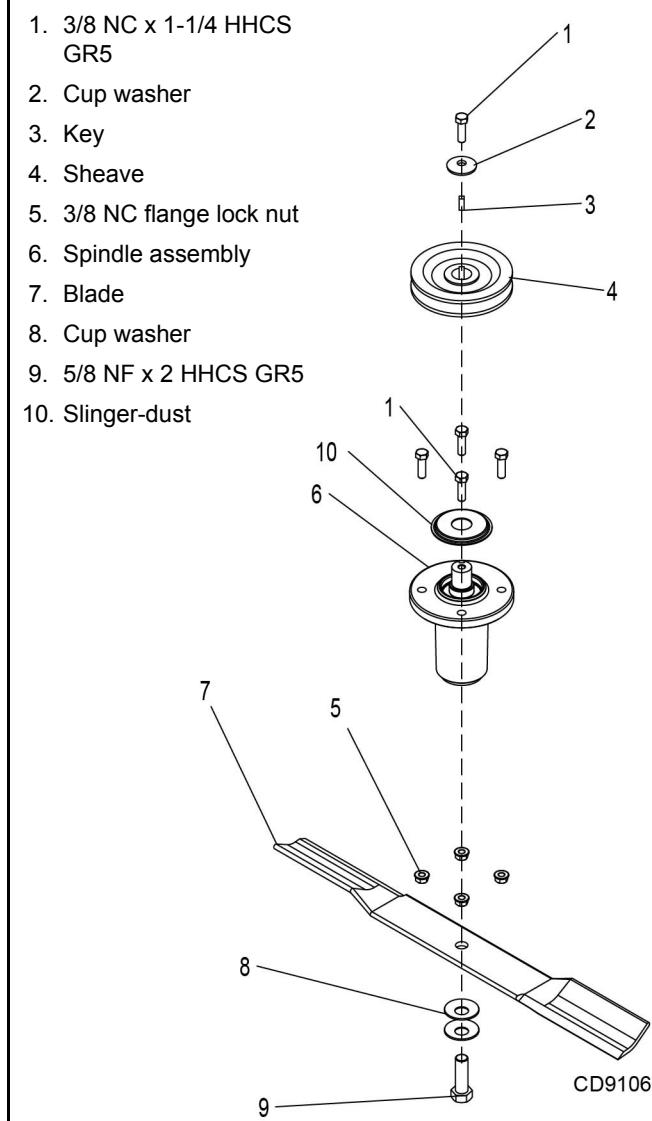

Figure 13. Blade Spindle Assembly
4. Remove bolt (1) and cup washer (2) holding sheave. Remove sheave (4) and square key (3) from spindle shaft.
5. Remove nuts (6) and bolts (9) that secure spindle to mower. (See Figure 13.)